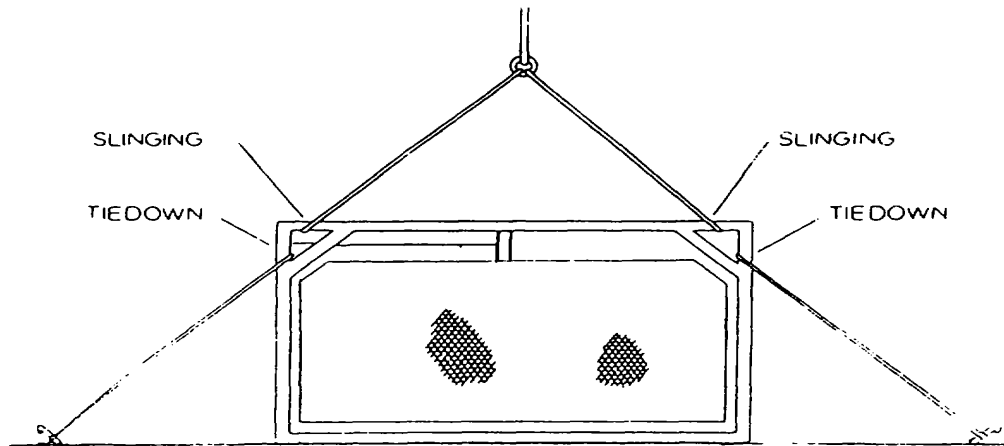
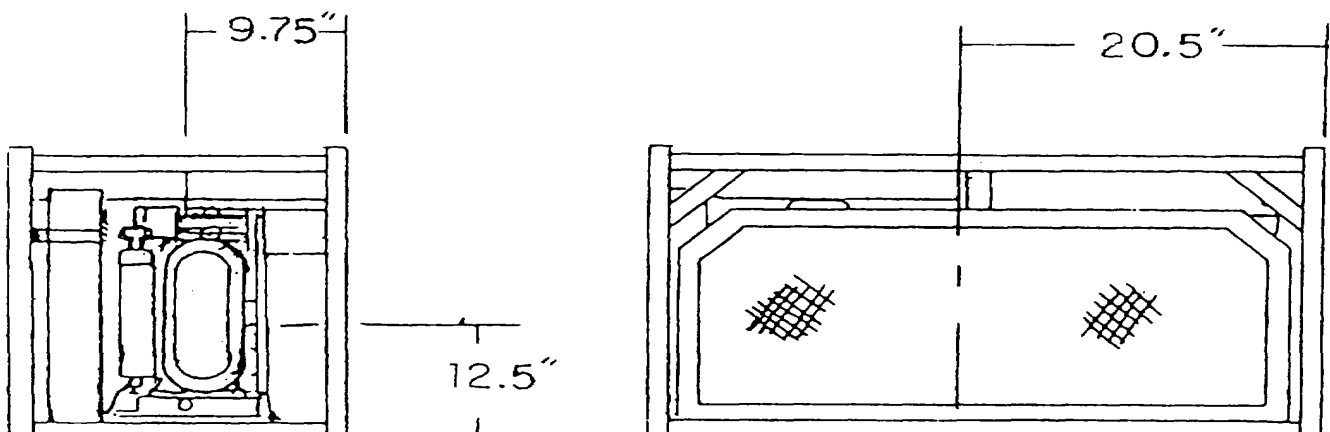

Figure 2-2. Compressor Unit Sling and Tie Down Arrangement
Figure 2-3. Compressor Unit Center of Gravity
- (1) Prepare the unit for storage in accordance with paragraph 2-4 or 2-5 as applicable.
- (2) Box or crate the complete unit in accordance with the applicable Technical Orders, 00 85 Series.
b. Uncrated Shipment. The Compressor may be shipped by securing the unit directly to the load surface of a vehicle such as a truck. The unit should be lifted and tied down in accordance with Figure 2-2. The approximate center of gravity of the unit is shown in Figure 2-3.